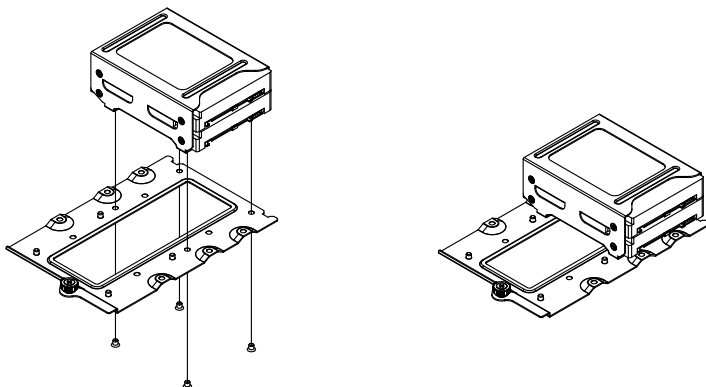

Figure 6-4. Securing the Bracket to the HDD Tray
2. Secure the bracket to the HDD mounting tray. (Figure 6-4)